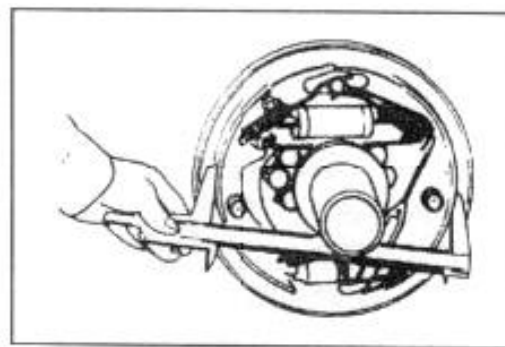

Fig 6-22
(9) Install adjuster, adjuster spring, top rod, and return spring for top rod (Fig 6-22).